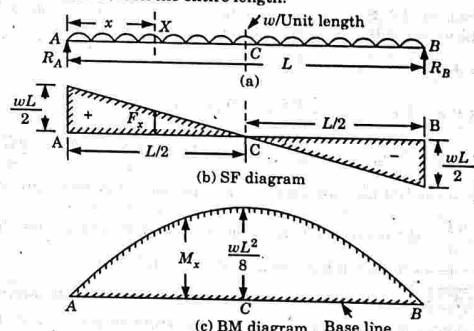

Fig. 2.6.1.
1. Fig. 2.6.1 shows a beam AB of length L simply supported at the ends A and B and carrying a uniformly distributed load of w per unit length over the entire length.
The shear force diagram is drawn as shown in Fig. 2.6.1(b).